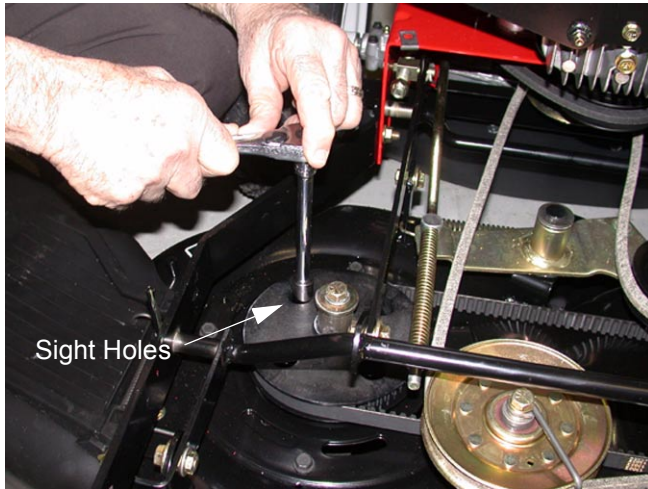

Figure 43
- 13.3. Align the sight holes in the right pulley with the spindle housing deck mounting bolts. See Figure 43.
- 13.4. Using a ½ inch deep socket loosen the four mounting bolts securing the spindle housing to the deck. See Figure 43.